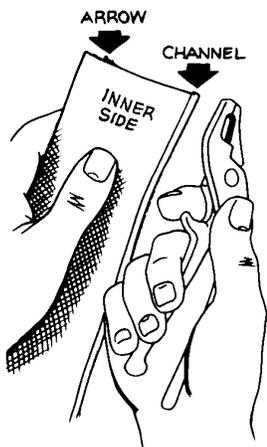

Figure 2
3. Pull down ½ inch (Figure 2).